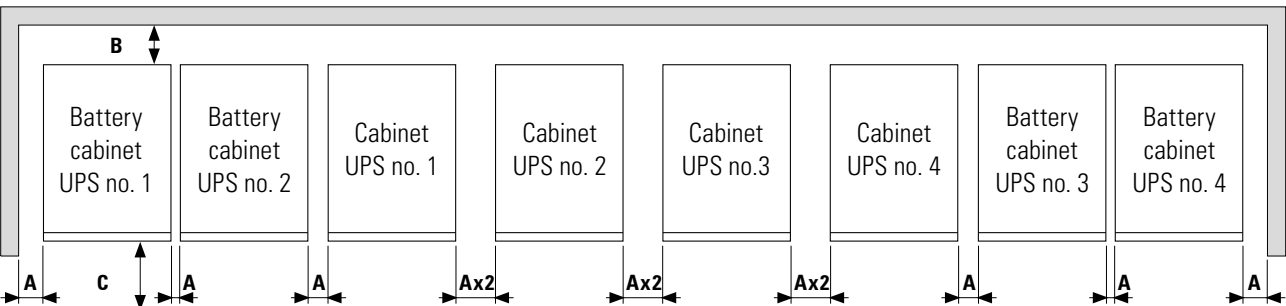

Fig. 30. Minimum dimensions for ventilating a UPS tower version system in parallel.
- Fig. 30 shows an example of 4 parallel units with their respective battery cabinets. For systems with fewer units, act accordingly on a case-by-case basis.